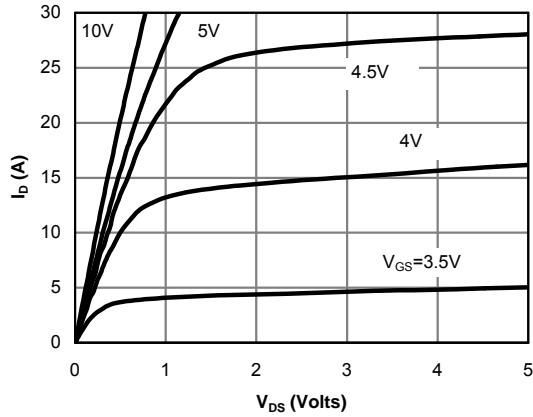

Fig 1: On-Region Characteristics
E. The static characteristics in Figures 1 to 6 are obtained using  $<300 \mu\text{s}$  pulses, duty cycle 0.5% max.